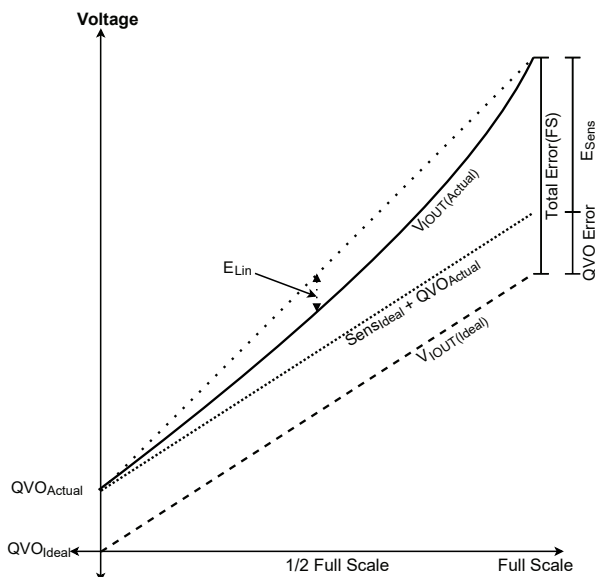

Figure 9: Accuracy Error
As the amount of field applied to the part changes, the sensitivity of the device can also change slightly. This is referred to as linearity error or E_{LIN} (see Figure 9). Consider two currents, I_{P1} (1/2 FS) and I_{P2} (FS). Ideally, the sensitivity of the device is the same for both fields. Linearity Error is calculated as the percent change in sensitivity from one field to another. Error is calculated separately for positive ($E_{LIN(+)}$) and negative ($E_{LIN(-)}$) currents, and the percent errors are defined as:
Total Output Error incorporates all sources of error and is a function of current. At relatively high currents, Total Output Error will be mostly due to sensitivity error, and at relatively low inputs, Total Output Error will be mostly due to Offset Voltage (V_{OE}). At $I = 0$ A, Total Output Error approaches infinity due to the offset. An example of total error at FS can be seen in Figure 9.